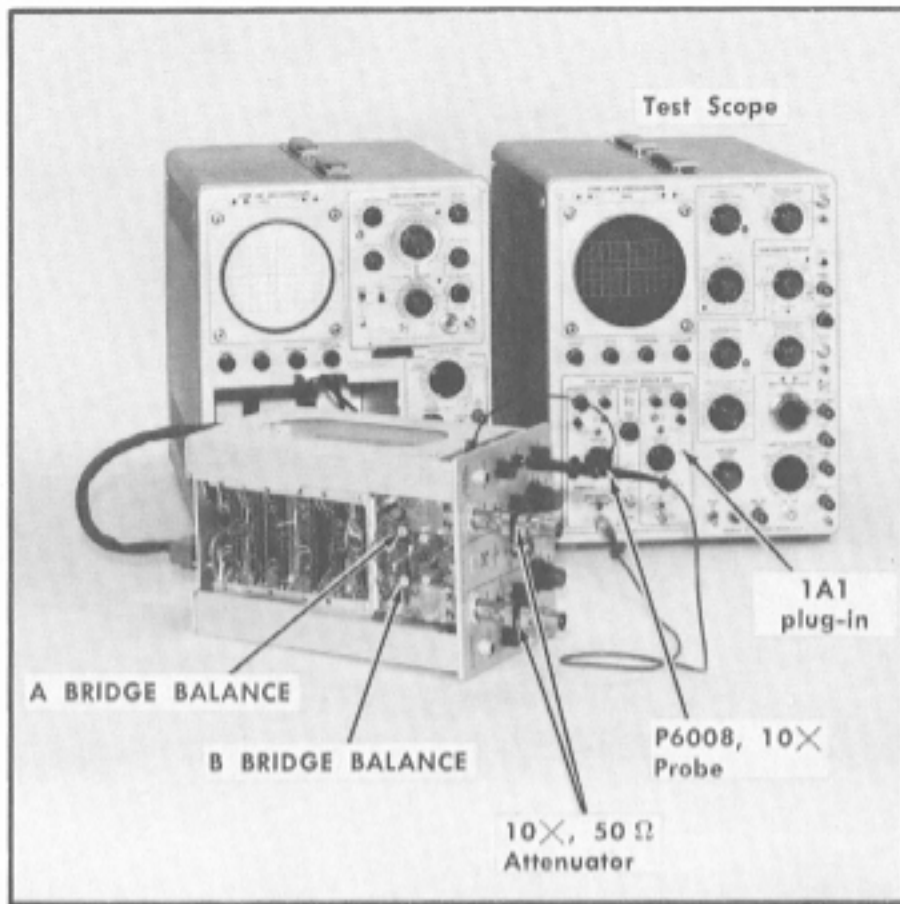

Fig. 6-24. Test equipment setup for steps 10, 11 and 12.
- a. Test equipment setup is shown in Fig. 6-24.
- j. Adjust A BRIDGE BALANCE, Fig. 6-24, to set the trace on the Type 661 CRT to vertical center.